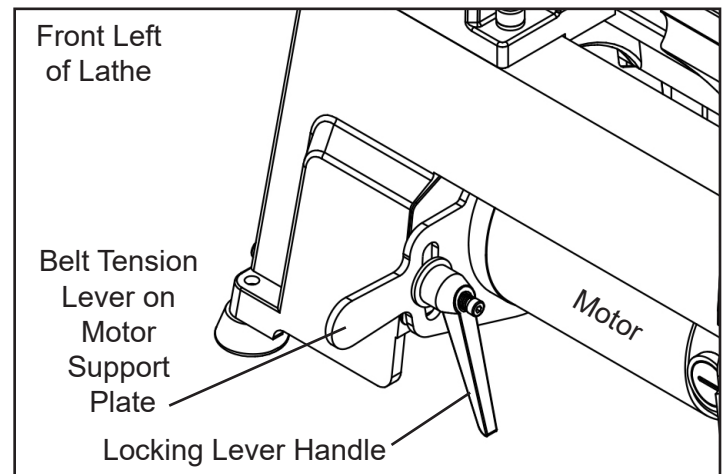

FIG. 15
1. With the access covers open, loosen the Locking Lever Handle that secures the motor in place, and raise the Belt Tension Lever on the Motor Support Plate to release the belt tension on the motor and spindle pulleys. FIG. 15.
4. Loosen the Locking Lever Handle (FIG. 15) and lift the Motor Support Plate Lever to loosen the tension on the belt. The belt can now be removed from the lower motor pulley.